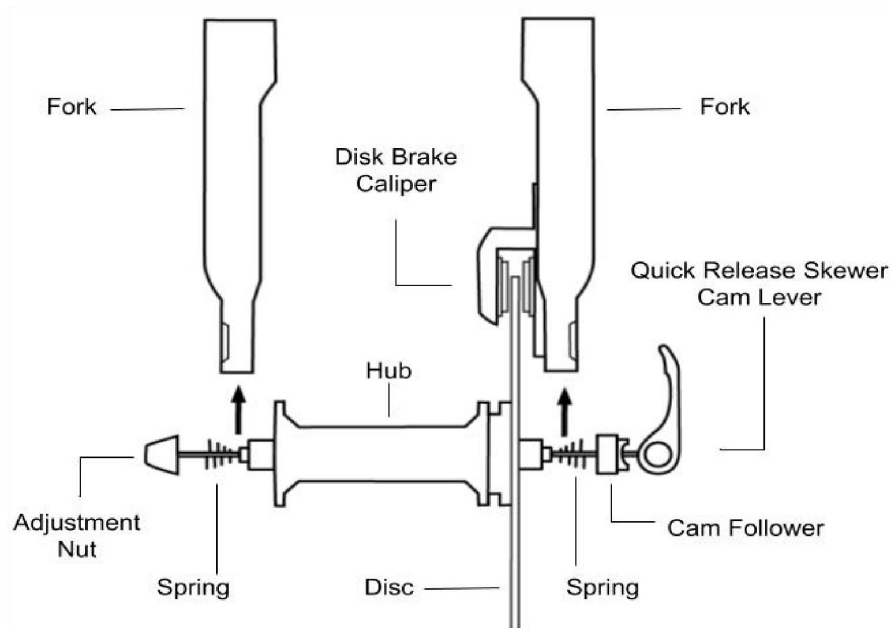

Figure 2
nearest the disk brake. Keep the adjustment nut and spring on the **RIGHT** side. (See Figure 2)
- 2) Insert the front wheel with the spacers in between the front fork on the bike. Be sure to align the disk between the brake caliper as shown in Figure 2.